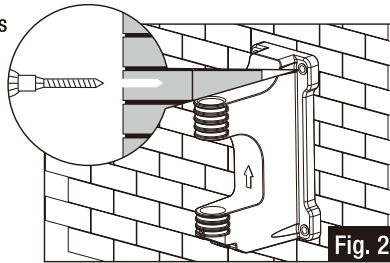

Fig. 2
- Position the wall mount bracket on the wall, use a 13 mm socket (not supplied) to tighten the four screws into the four holes in the wall to secure the wall mount bracket in place (Fig. 2).